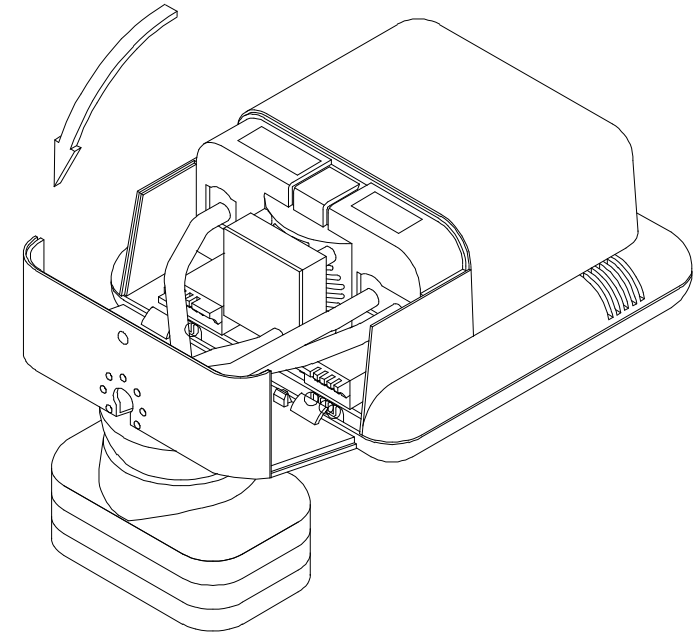

Figure 2.8
6. Place the scanner onto the US-30 universal stand and rotate the scanner as shown in figure 2.8. Make sure that the connectors and cables are placed as indicated in the figures, such to allow easy attachment of the scanner to the back cover. Press the scanner until a “click” is heard.